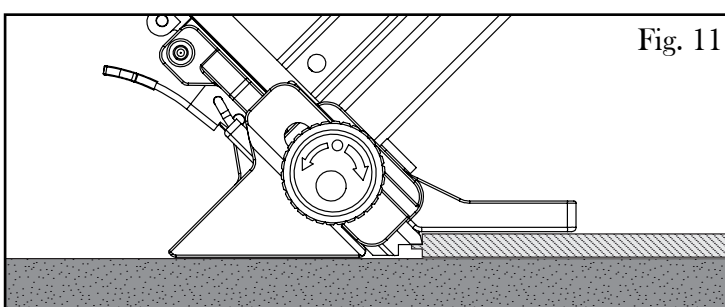

Fig. 11
3. Place the contact piece on top of the hardwood flooring. Push the nailer towards the hardwood (Fig. 11).